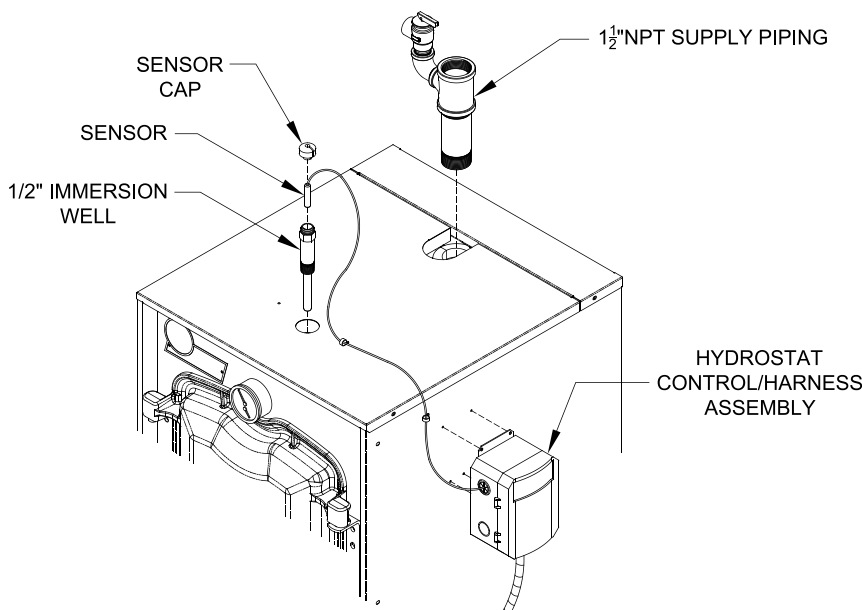

Figure 5: Supply Piping and HydroStat 3250 Plus Control Assembly Details
Open miscellaneous parts carton and remove contents. Identify the components using the illustrations (see Figure 5) throughout the assembly sequence outlined below as it applies to your installation.
Step 1. Locate the HydroStat/Harness Assembly. Refer to the 36" Remote Mounting Kit instructions (Included in the 36" Remote Mounting Kit, P/N 105288-01) located in the Misc. Parts Carton. Refer to Paragraph D for Swing Door Hinge placement. Secure HydroStat 3250 Plus control to the hinge side Side Panel with supplied sheet metal screws as shown in Figure 5.
Step 2. Locate (2) 5/8" cable clamps in parts carton. Secure burner wiring harness to front of jacket right side panel with cable clamps and existing jacket screws at top and mid-point.
Step 4. Locate (2) 3/16" cable clamps in parts carton. Secure sensor wire to top jacket panel and side jacket panel with cable clamps with self-tapping sheet-metal screws (included) as shown in Figure 5.